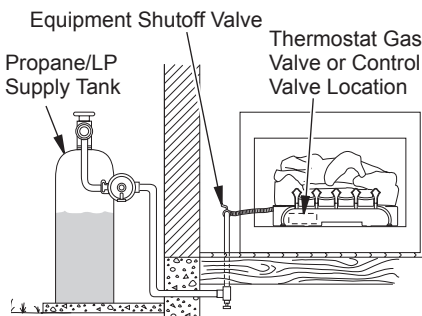

Figure 15 - Checking Gas Joints
3. Check all joints from gas meter for natural or propane/LP supply to equipment shutoff valve (see Figure 15 or 16). Apply a noncorrosive leak detection fluid to all joints. Bubbles forming show a leak.
4. Check all joints from equipment shutoff valve to thermostat gas valve (see Figure 15 or 16). Apply a noncorrosive leak detection fluid to all joints. Bubbles forming show a leak.